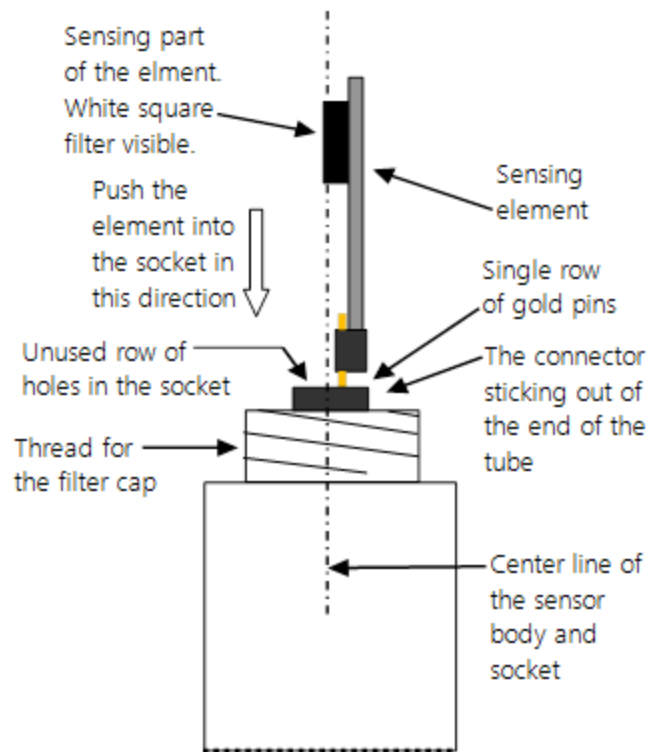

FIGURE 9-1. Correct fit of the 4-pin sensor element (side view)
The replacement sensor element has a single row of 4 pins which mates into one side of an eight-way socket at the end of the probe. The element can be mounted into either side of the connector but the orientation of the sensor in relation to the pins is critical. Please refer to FIGURE 9-1 (p. 19).
7. Unpack the replacement element, avoiding static discharges to the element by making sure you touch the packaging before the element. The element can be inserted into either row of four holes in the socket, but it must be orientated so the sensing element with the white cover, is facing into the center line of the socket, towards the empty row of holes (see FIGURE 9-1 (p. 19)).